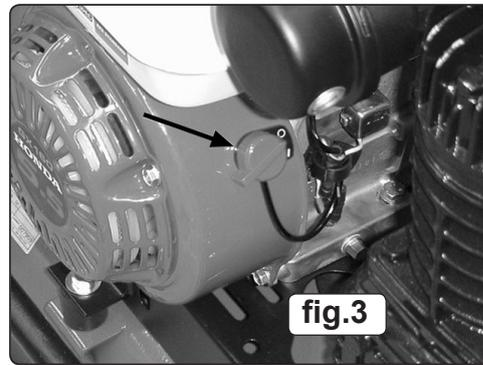

fig.3
- 4.2.1. To stop the compressor turn the engine ignition switch (fig.3) to Off (O). See the engine manufacturer's handbook for the complete engine shutdown procedure.